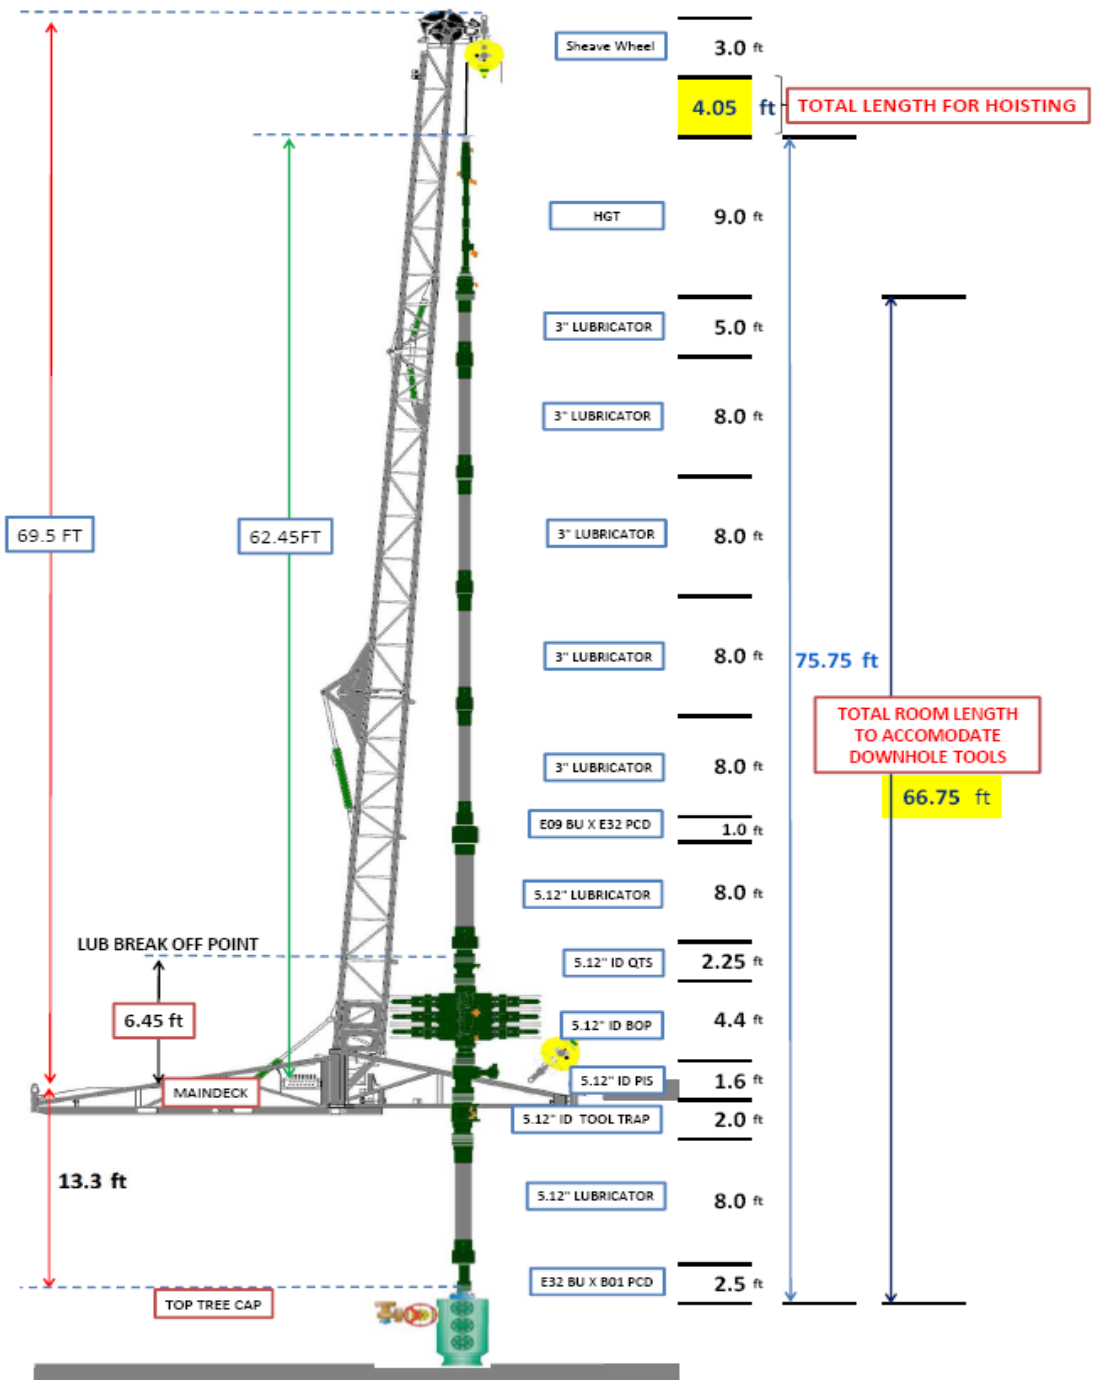

Figure 1: Typical Setup Of E-Line Rig Up
- iv. Close Lower Master Valve (LMV) and Crown Valve (CV).
- vi. Rig up (R/U) lower section of riser to wellhead up to Quick Test Sub (QTS). The remaining upper section of lubricator with HGT assembly are laid down on the main deck. Refer **Figure 1** for rig up lubricator assembly diagram.